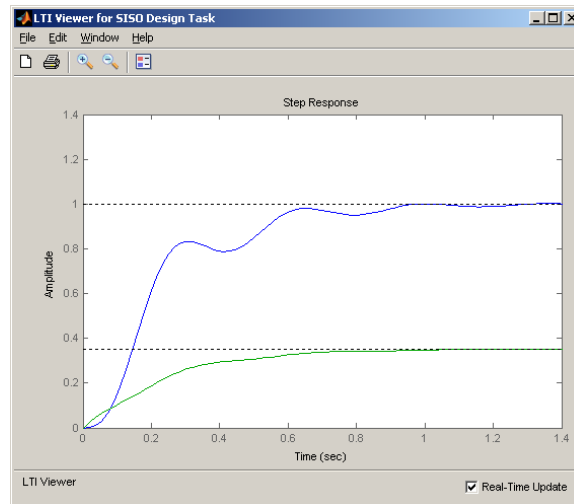

Figure 9: Step Response for I-PD controller
16. The step response for the I-PD controller is shown in Figure 9.